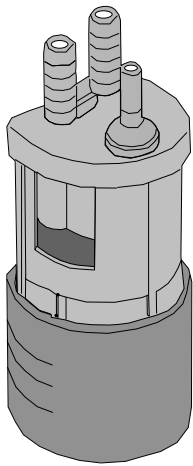
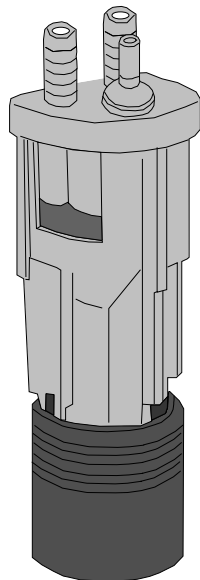

Fig.1
Fig.2
1. The AG100-004 unit is truly unique as its design permits quick and easy mounting over the top lip or inside the top end of the drainage standpipe. It works well with exposed standpipes or within the recessed wall boxes. AG100-004 fits on the outer rim or inside of 1-1/2-inches or 2-inches standpipe (metal or plastic). When in use, always mount the unit vertically at the top end of the drainage standpipe as pictured in Fig.1 and Fig. 2